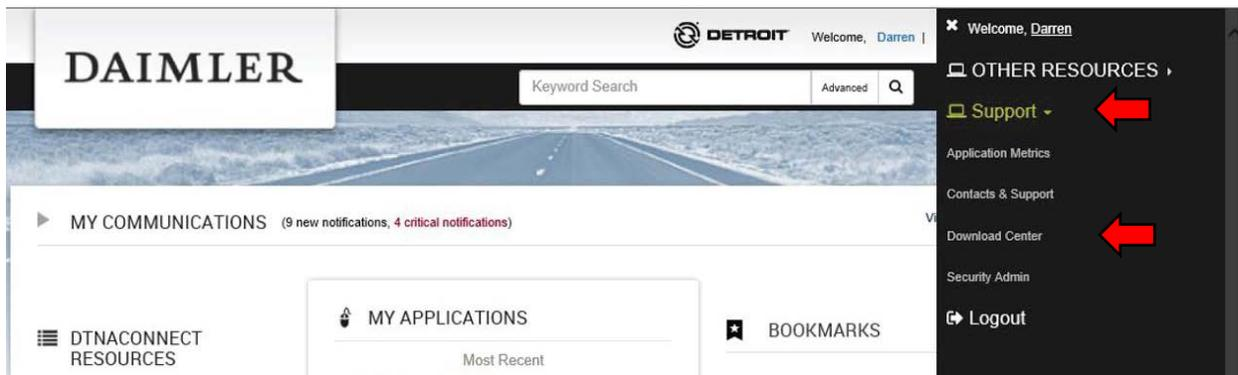

Fig. 2, Selecting Support and Download Center Screen
4. Select 'Support,' then select 'Download Center.' See Fig. 2.